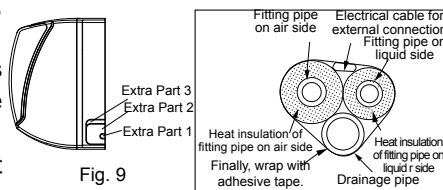

Fig. 9
1. When laying the pipe (line) at the left or right side, cut as needed the extra part of the fitting pipe left at the tube-exit plate of the unit base. (See Fig. 9).